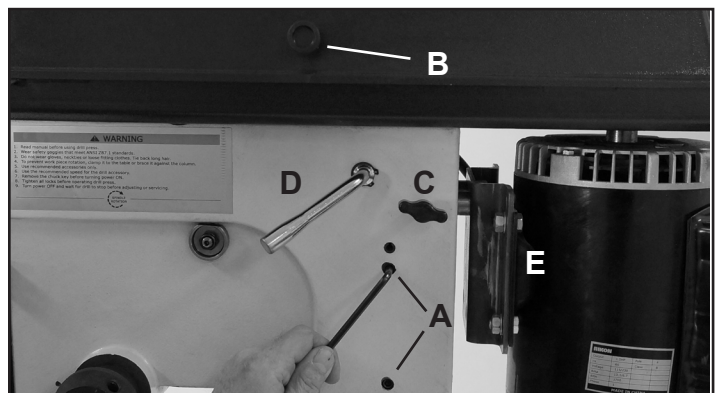

FIG. 6
2. Secure the drill press head to the column by tightening the two set screws (#2B) on the right side of the head. FIG. 6, A.
3. Install the small, belt cover Handle Knob (#2, on Parts Diagram C) onto the right side of the top lid. Open the belt cover and insert the Phillips head screw through the hole in the lid from the inside. Thread the handle on the outside of the belt cover and tighten it in place with a screwdriver. FIG. 6, B.
NOTE: Figures 6 & 7 also show the motor Lock Knobs (#6B, C), Tension Lever (#5B, D) and the motor Mount Assembly (E) that are referenced in the section on Changing Belt Speeds on page 14.
2. Loosen the belt tension by moving the motor closer to the head casting. Loosen the two Lock Knobs (#6B) then pull the Tension Lever (#5B) forward to shift the motor mount assembly forward. See page 10, Figures 6 & 7 for photos identification of these parts.